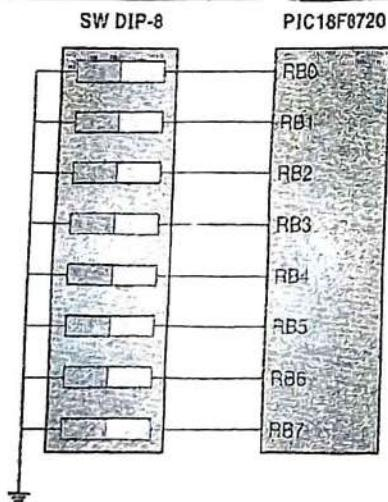

Fig. 7.3.1 : Connecting a set of eight DIP switches to port B of the PIC18F8720
- DIP (Dual In Package) switches is an IC package with usually four or eight switches. Fig. 7.3.1 shows an eight-input DIP package connected to an input port (Port B in this case). The port B has to be configured as input port in order to make the circuit to work.
When a switch is open, the corresponding pin is pulled up to V_{cc} internally and hence will be read as 1. When a switch is closed, the corresponding pin will be pulled to low by the external connection to ground as shown in Fig. 7.3.1 and hence be read as 0.